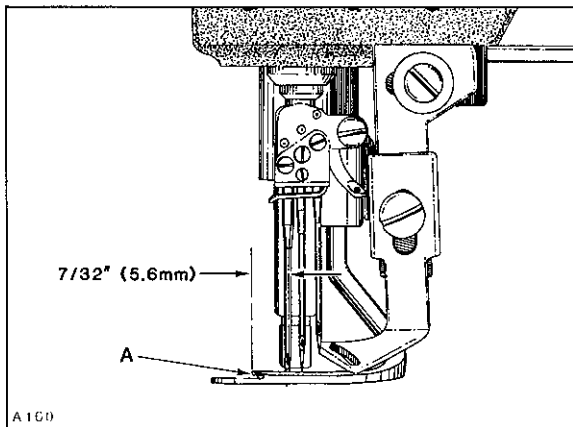
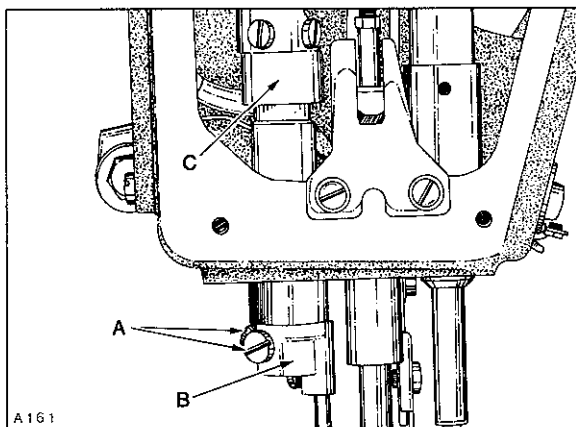

Fig. 30
Fig. 31
With spreader at extreme LEFT end of travel the TIP of thread carrying notch (A, Fig. 30) should be 7/32 inch (5.6mm) to the left of the centerline of LEFT needle. Adjustment can be made by loosening two screws (A, Fig. 31) allowing spreader holder (B) to be rotated on its shaft to attain dimension shown in Figure 30.
IMPORTANT: Take up thrust between spreader holder shaft lever (C, Fig. 31) and spreader holder (B) while tightening screws (A) securely. Recheck spreader height.